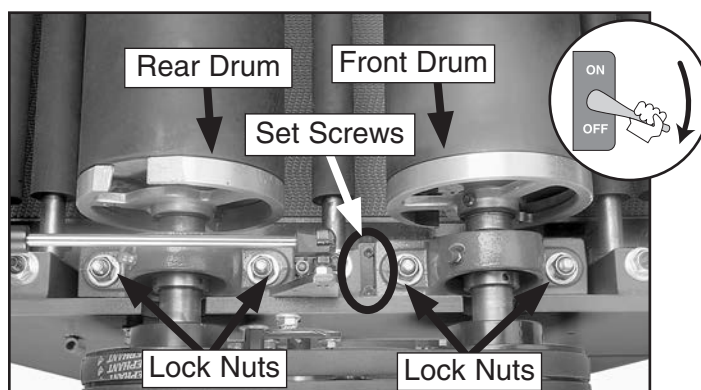

Figure 55. Front and rear drum adjustment locations.
6. Loosen the rear drum pillow bearing lock nuts, shown in **Figure 55**.
11. Loosen the front drum pillow bearing lock nuts (**Figure 55**).
9. Loosen the front drum pillow bearing lock nuts (**Figure 55, Page 43**).
10. Adjust the height of the front drum ends by adjusting the set screws (**Figure 55**) on the pillow bearing up or down until the largest size feeler gauge you can fit between the front drum and 36" long gauge blocks (at both ends) is 0.017"–0.025.